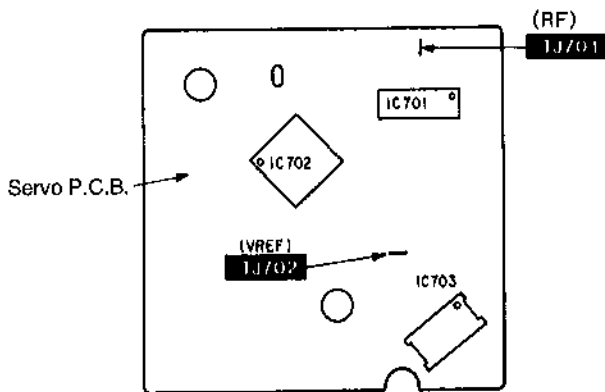

Fig. 2
1. Connect the oscilloscope's CH. 1 probe across **TJ701** (+) and **TJ702** (VREF) on the Servo P.C.B. (Shown in Fig. 2)